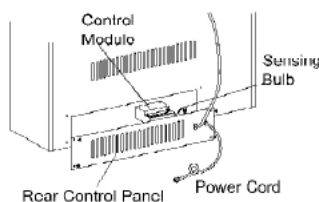
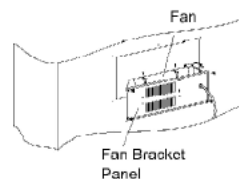
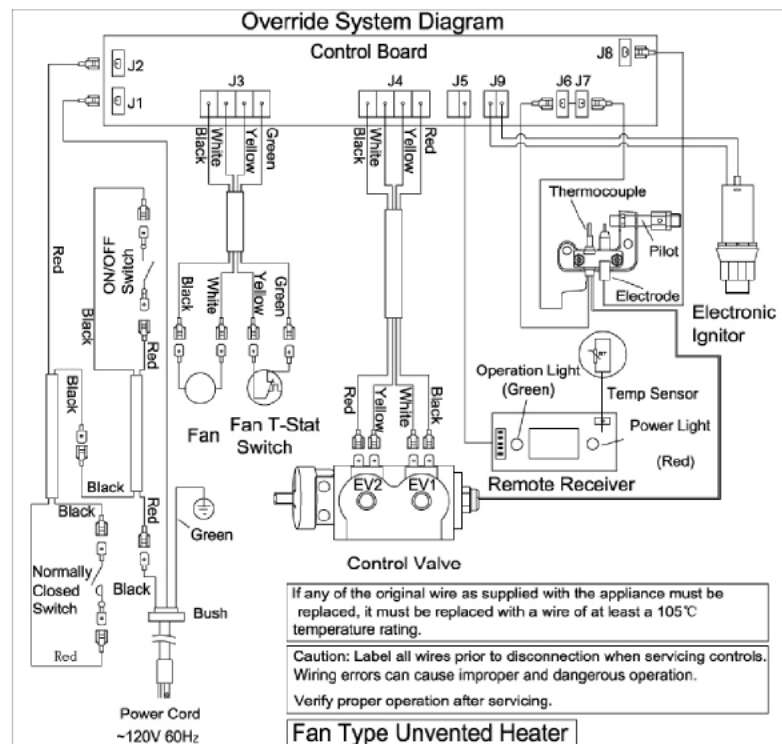

Figure 19- Control Model
Figure 20- Fan
Figure 23- Remote Control System Diagram
2. Remove two screws and hex nuts, take out the control module. When installing, reverse the steps above. (See Figure 19 and Figure 23)
2. Mark or tag each wire removed for its exact reconnection. Remove the four screws from the fan. When installing, reverse the steps above. (See Figure 20 and Figure 23)